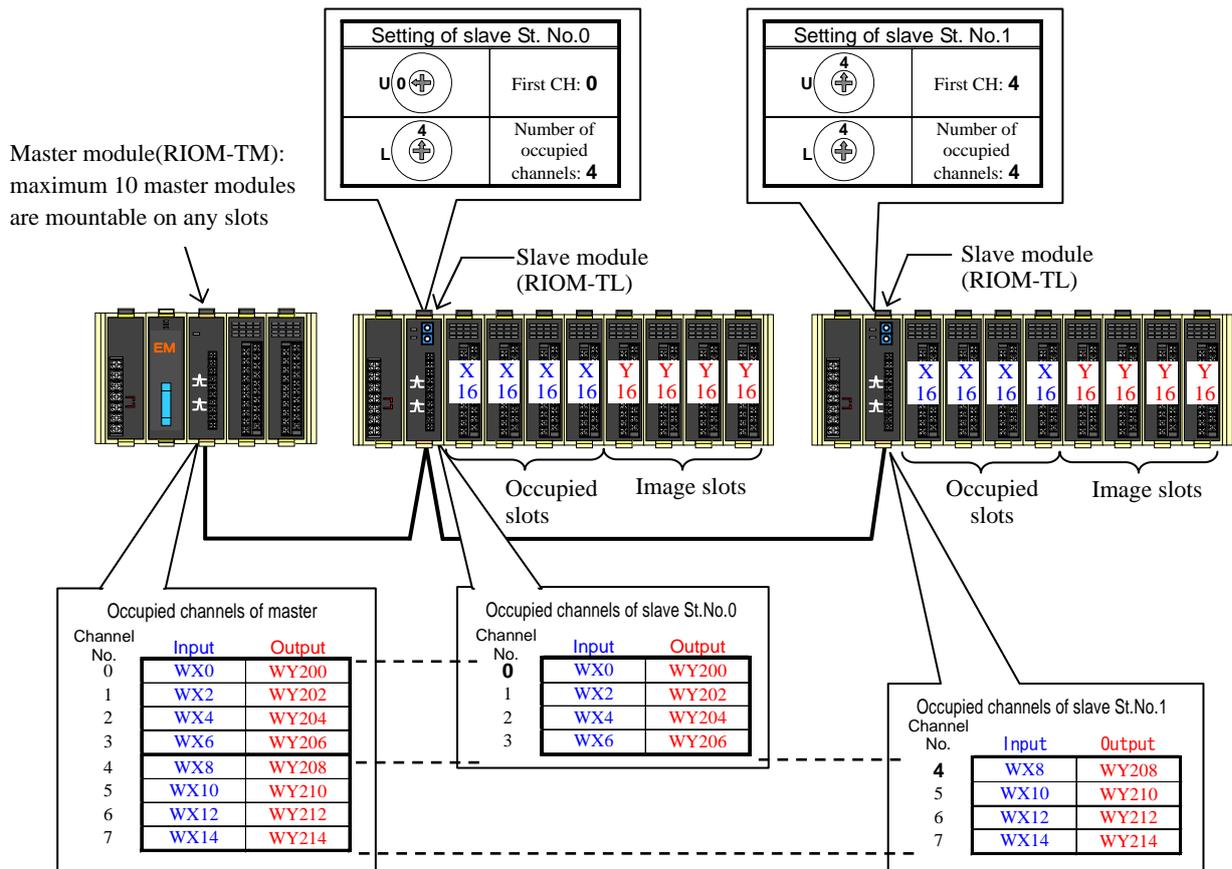
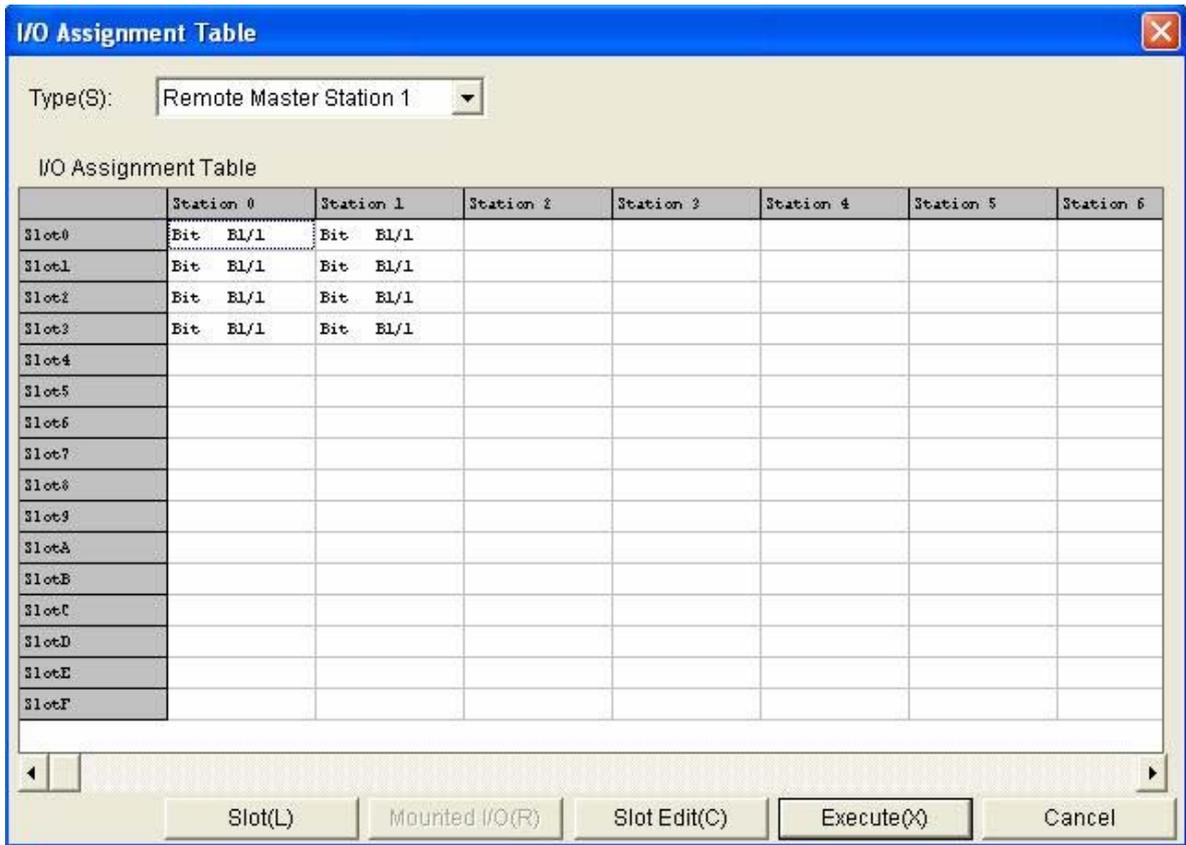
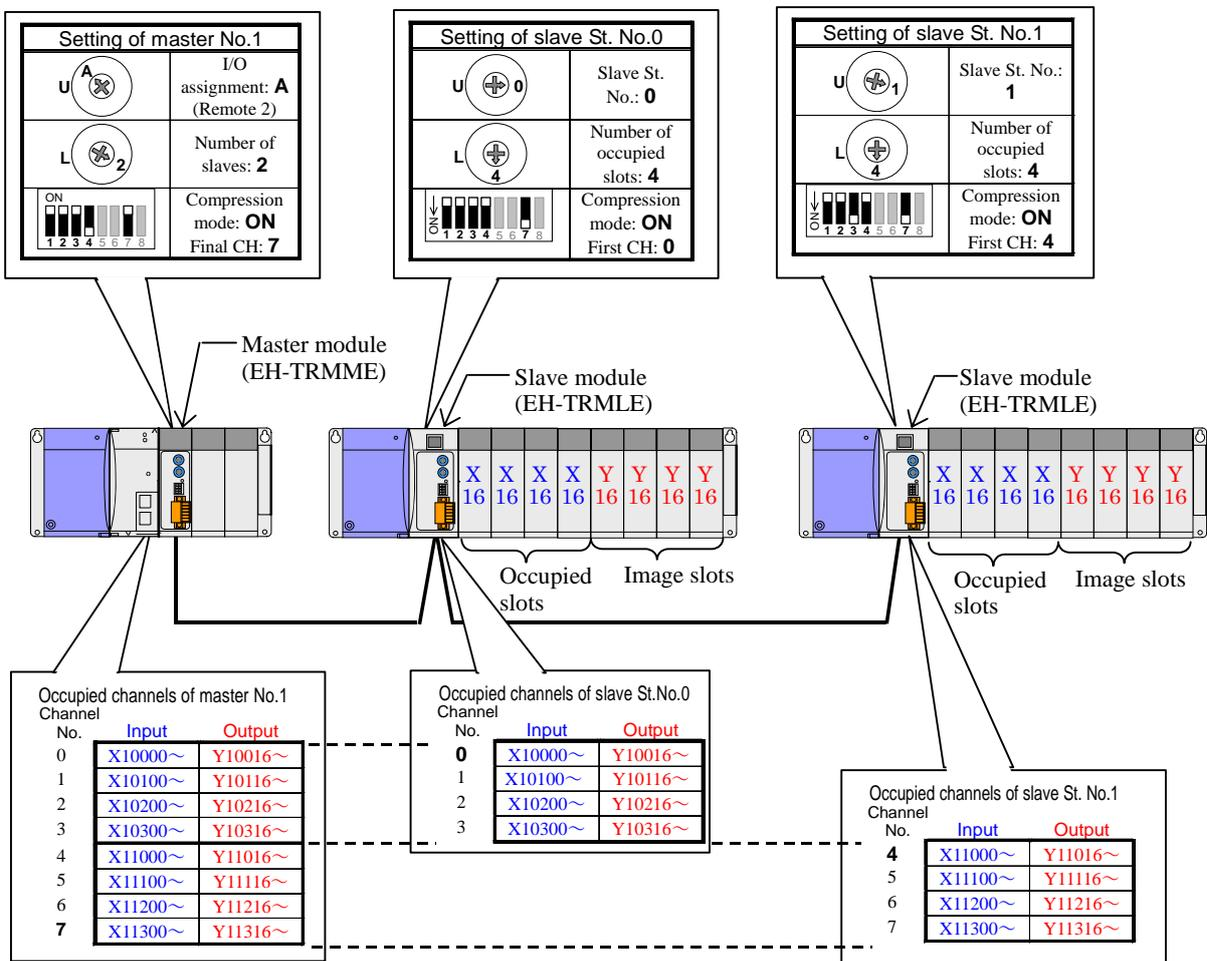

Figure 4.35 System configuration example-17 of the EM/EM-II series (Using image slot)
Figure 4.36 Example of I/O assignment for slave bases (with Ladder editor in system configuration example-18)
Figure 4.37 Replaced system configuration example-18 of the EH-150 (Using image slot)
This system configuration example is shown in Figure 4.35. I/O assignment of this system is shown in Figure 4.36. Figure 4.37 shows the system configuration example replaced to EH-150.
Figure 4.37 is an example of replacing all of master and slave modules with the EH-150 series. It is also possible to leave all or partially slave modules like the EM/EM-II series in order to postpone the wiring work of slaves. In this case, please set rotary switch (upper) "E" for master module and all slave modules in order to match communication protocol. Please turn off high-speed refreshing mode (HS) of a front DIP switch of the master module and the slave modules when new remote module and old remote module are used in same system.